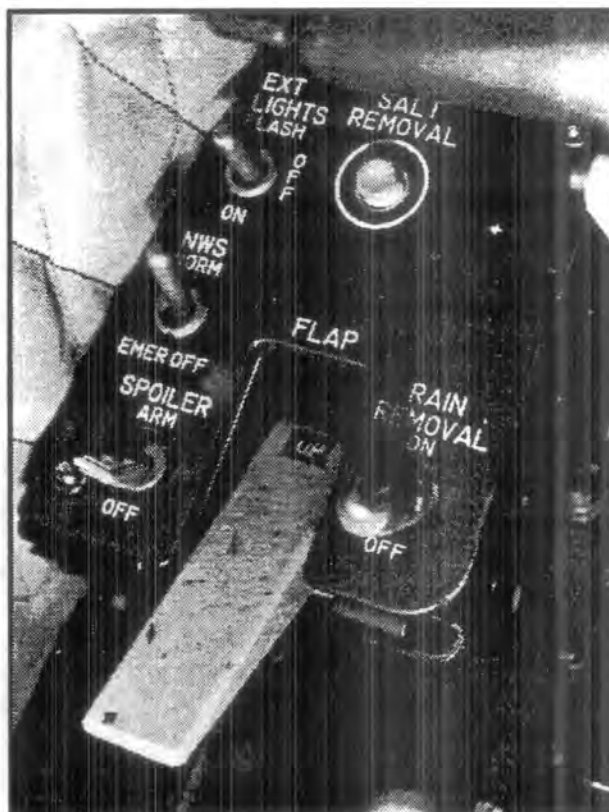

Figure 1-20 Spoiler and NWS Switches
1.141 This switch, located outboard of the throttle, enables the Nosewheel Steering system to be disabled electrically by placing the Nose Wheel Steering (NWS) switch in the **EMER OFF** position. The switch is shown in Figure 1-20.